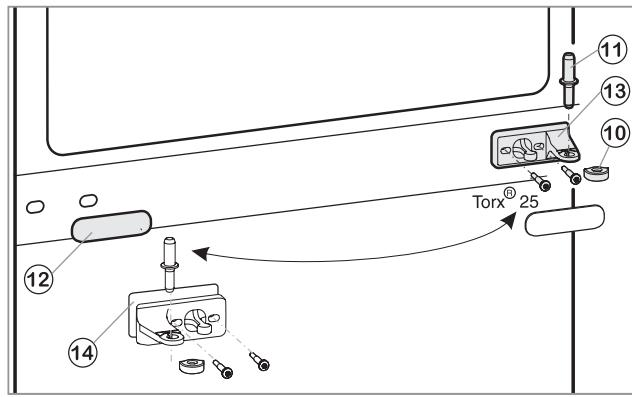

Fig.2
- Draw the middle bearing pin Fig. 2 (11) out of the turn hinge and lower door.
- Remove the plastic cap Fig. 2 (10).
- Unscrew the middle turn hinge (2x Torx® 25). Fig. 2 (13).
- Carefully detach the cover panel Fig. 2 (12).
- Turn the middle turn hinge Fig. 2 (13) with the washer Fig. 2 (14) through 180° and screw it firmly into place on the new hinge side (with 4 Nm).
- Turn the cover panel Fig. 2 (12) through 180° and snap it into place again on the new handle side.
- Place the plastic cap Fig. 2 (10) back onto the middle turn hinge Fig. 2 (13).
- Place the middle bearing pin Fig. 2 (11) in the lower door, on the new hinge side, through the middle turn hinge Fig. 2 (13).
- Place the upper door on the middle bearing pin Fig. 2 (11).
- If necessary, align the doors to the appliance housing by way of the two oblong holes in the bottom turn hinge and middle turn hinge Fig. 2 (13). To do so, unscrew the middle screw in the bottom turn hinge.